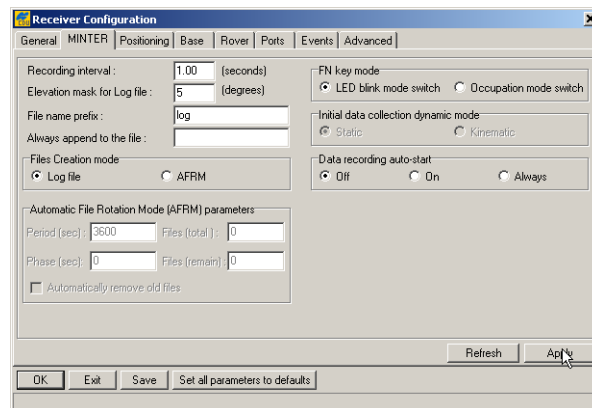

Figure 2-16. Receiver Configuration – MINTER Tab
3. Click **Configuration ► Receiver** then click the **MINTER** tab, set the following parameters and click **Apply** (Figure 2-16 on page 2-20). See the following pages for descriptions of these parameters: